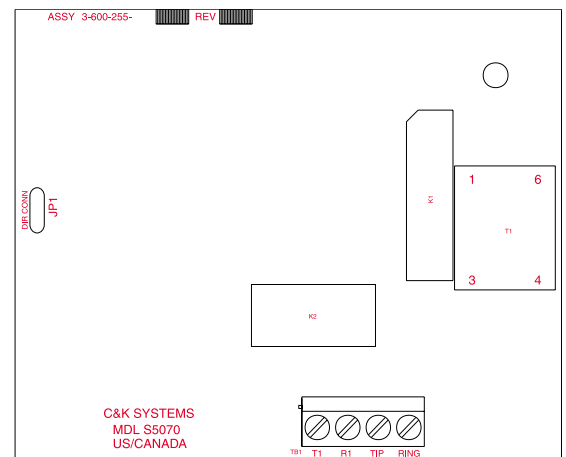

Figure 15
3. Initiate the Direct Connect function in Commander II. When you hear the modem tones, momentarily short the Direct Connect pads (see Figure 15, below) located on the left-hand side of the digital communicator PCB. You should hear the seize relay energize to indicate connection.